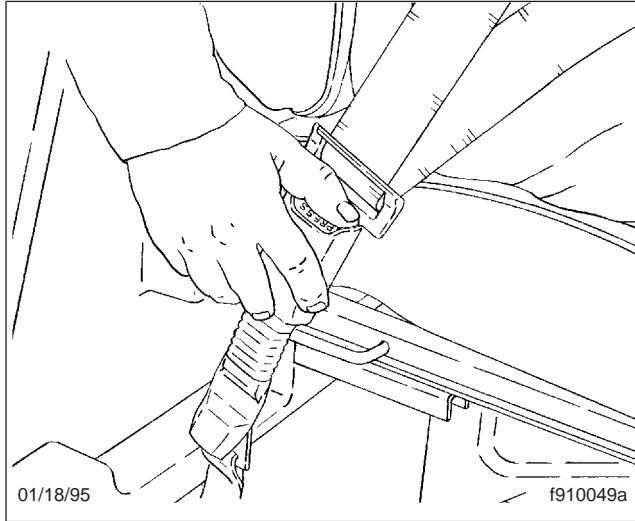

Fig. 2.11, Releasing the Three-Point Seat Belt (typical)
4. To unbuckle the three-point seat belt, push the button on the buckle. See Fig. 2.11. If the Komfort Latch was used, release it by giving the shoulder belt a quick tug. If you lean forward against the shoulder belt, the Komfort Latch will automatically release, and will need to be reset.